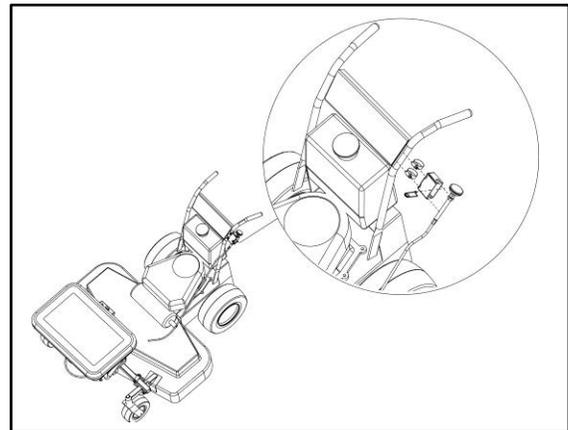

Figure 1-6
- b) Install cable mount with hose clamps to tubular frame or handle near the operator. Figure 1-6.